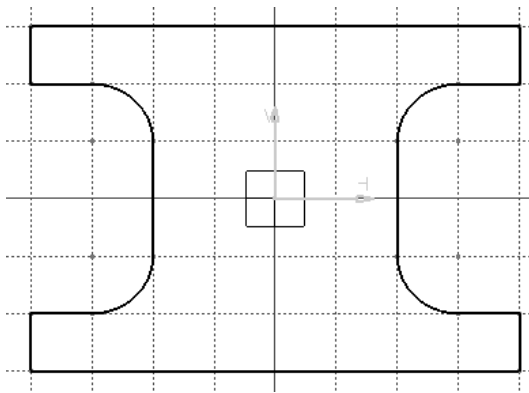

Figure 2-47 The sketch after drawing the outer loop and hiding the constraints
23. Move the cursor vertically downward and specify the endpoint of the line when it snaps to the start point of the outer loop. The sketch, after drawing the outer loop and hiding the constraints, is shown in Figure 2-47.